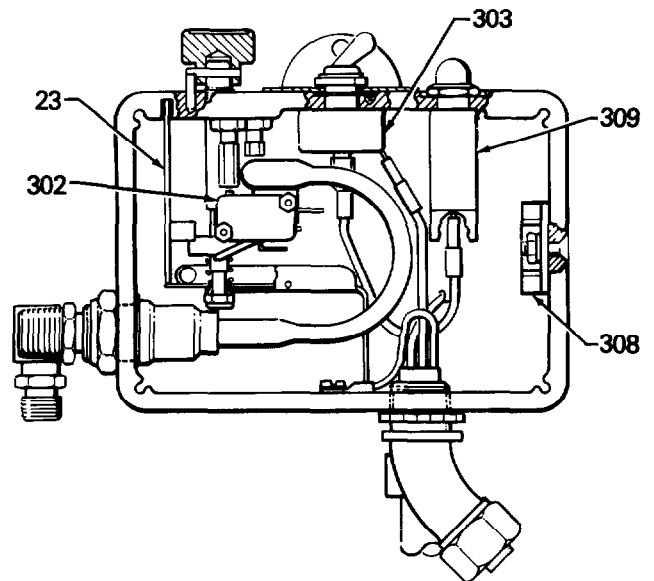

Fig 8
Disconnect the two leads from the motor to the bridge (308). See Fig 8 and 9.